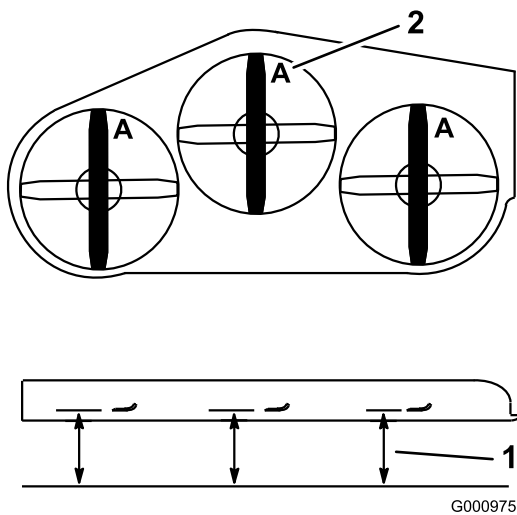

Figure 95
3. With the machine on level surface, position one blade front-to-rear. Measure at A and from level surface to the cutting edge of the blade tips (Figure 95).